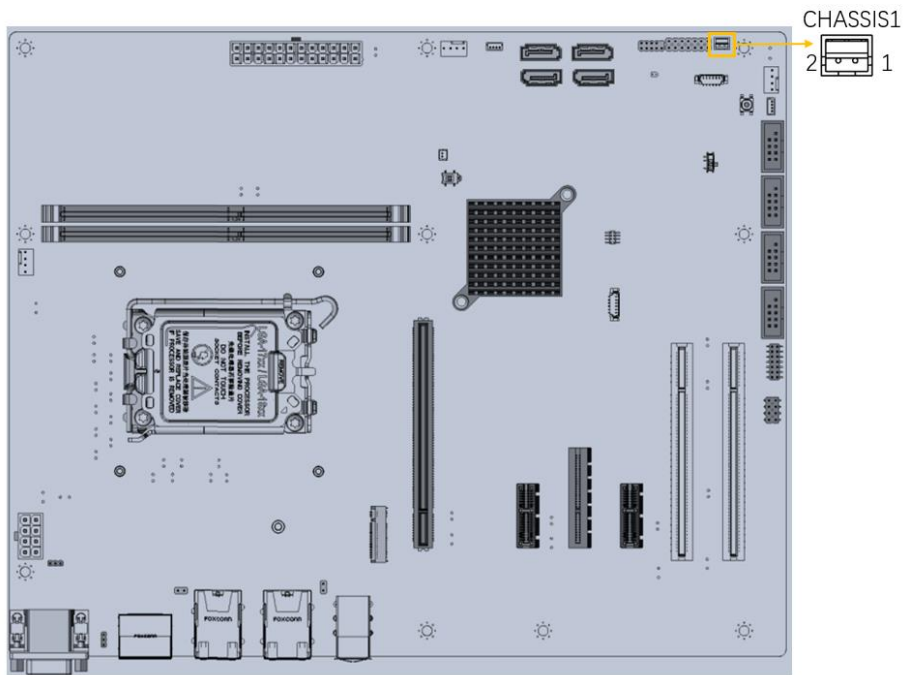

Figure 3-10: Chassis Intrusion Connector Location
- CN Location:** See **Figure 3-10**